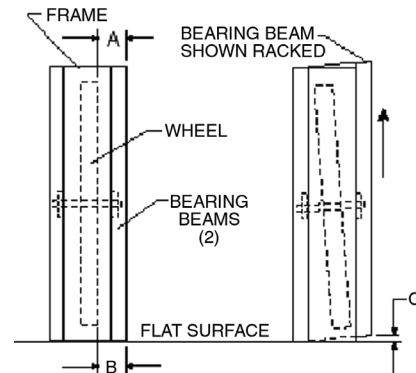
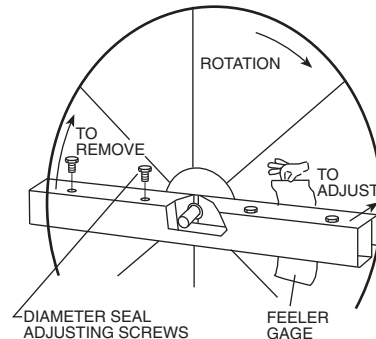

Fig. 192 — Avoid Racking of Frame
Fig. 193 — Diameter Seal Adjustment
5. Remove the upper and lower (2) wheel retainer angles, being careful wheel does not tip and fall out.
6. Slide wheel cassette out of frame (toward main AHU), and out the side of the unit (3).
7. The new ERV section may be mounted in any orientation. However, make certain that the frame remains flat and the bearing beams are not racked as shown in Fig. 192.
8. To ensure that the beams are not racked, check that the distance between the wheel rim and bearing beam is the same at each end of the bearing beam, to within 1/4 of an inch (dimension A and B in Fig. 192). Bearing beam racking of as little as 0.040 inches (Dim C in Fig. 192) will cause the wheel to tilt 3/16 in. at the rim. Adjusting the diameter seals (Fig. 193) will compensate for up to 1/4 in. of racking.
9. Wheel sections installed at angles greater than 30 degrees from vertical will require seal adjustment (Fig. 193). Adjust the diameter seals to avoid excessive wheel drag. A final check of seal adjustment is recommended for all designs.
1. Loosen the diameter seal adjusting screws and back seals away from wheel surface (Fig. 193).